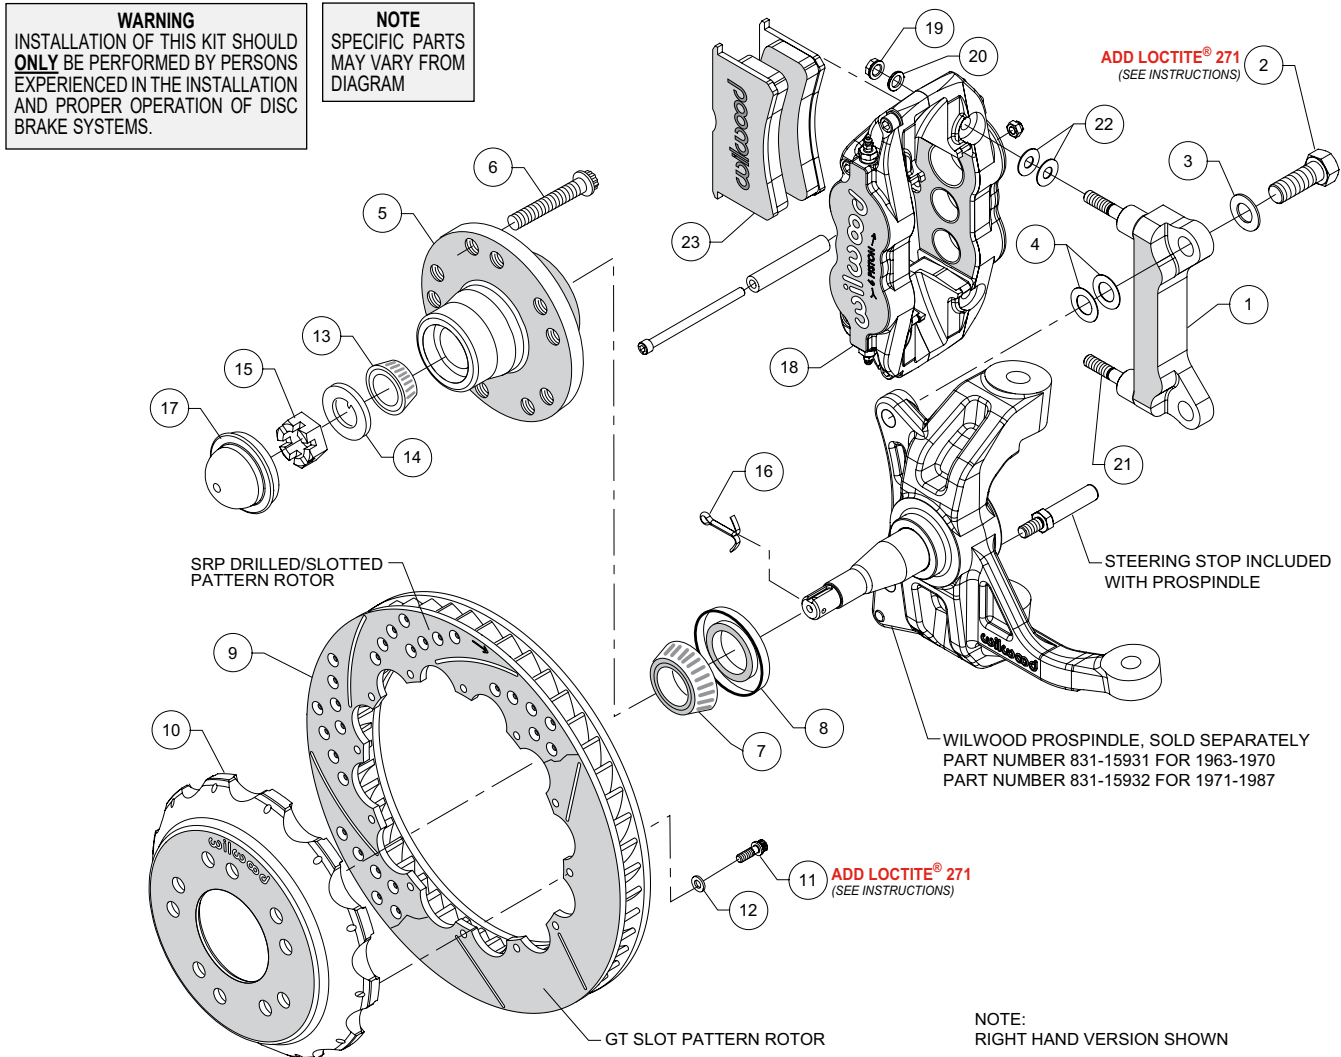
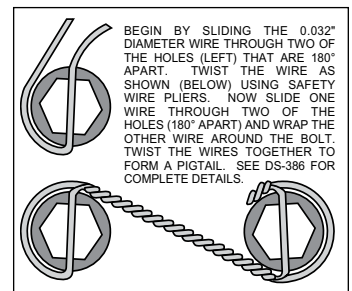

Figure 1. Typical Installation Configuration
Figure 3. Safety Wire Diagram
NOTE: Numbers in parenthesis refer to the parts list and Figure 1 on the preceding pages.
- Install the steering stop bolt (included with the ProSpindle) into the spindle as shown in Figure 1 and Photo 1. Torque to 25 ft-lbs.
- The caliper mount bracket (1) should initially be installed with clean, dry threads on the mounting bolts. Orient the bracket, as shown in Figure 1 and Photo 2, and install using bolts (2) and washers (3). Initially place two .024" thick shim (4) on each bolt between the bracket and spindle, Figure 1. Temporarily tighten the mounting bolts. **NOTE:** The bracket must fit squarely against the mount bosses on the spindle. Inspect for interference from casting irregularities, machining ridges, burrs, etc. Later, after the caliper alignment has been checked, the mount bolts will be secured using red *Loctite*® 271.
- Pack the small outer bearing cone (13) with high temperature disc brake bearing grease and install into hub (5). Slide the hub assembly onto the spindle. Secure using spindle washer (14) and spindle nut (15), Photo 6. Adjust bearings per OEM specifications. Install a new cotter pin (16).
- Press the dust cap (17) into the hub (5). **NOTE:** Do not hammer center of cap. Install using outer flange only.
- Orient the rotor (9) and the hat (10) as shown in Figure 1 and Photo 7. Attach rotor to hat using bolts (11) and washers (12). Apply red *Loctite*® 271 to the bolt threads and torque to 155 in-lb using a criss-cross pattern. For an added measure of security, the bolts may be safety wired using standard 0.032 inch diameter stainless steel safety wire as shown in Figure 3. Refer to Wilwood's data sheet DS-386 (available at www.wilwood.com/Pdf/DataSheets/ds386.pdf) for complete safety wire installation instructions.
- Slide the hat/rotor assembly (10 and 9) onto the hub (5), Photo 8. **NOTE:** The hat must fit flush against the hub face or excessive rotor run out may result. Install three lug nuts (finger tight) to keep the hat/rotor assembly in place while continuing with the installation, Photo 8.
- NOTE:** This kit contains distinct right and left hand calipers that must be mounted in a specific direction, as described below. Initially place two .035" thick shims (22) on each stud (21) between the caliper and the bracket, as shown in Figure 1 and
Photo 9. Mount the caliper (18) onto the bracket (1) using lock nuts (19) and washers (20), Figure 1. Temporarily tighten the lock nuts. Ensure that the caliper is mounted so that the largest pistons are at the rotor exit end of the caliper, in relation to the direction of rotor rotation. View the rotor through the top opening of the caliper. The rotor should be centered in the caliper, Photo 10. If not, adjust by adding or subtracting shims (4) between the bracket and the spindle. Always use the same amount of shims on each of the two mounting bolts. Once the caliper alignment is correct, remove the bracket mounting bolts one at a time, apply red *Loctite*® 271 to the threads, and torque to 140 ft-lb.